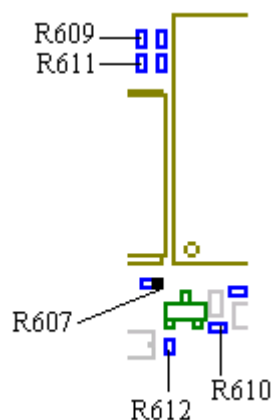

Fig. 8.4
- * If the VBATT voltage is correct, check that R612 (~0 ohms, class A), R610 (~33 ohms, class A) and R611 (~0 ohms, class A, all in fig. 8.4) are mounted and of the correct resistance.
- If none of the H651-H660 LEDs are lit, measure the voltage at the marked side of R607 (~3.1V, fig. 8.4). Before measuring you have to press a key for the processor to set the LED3K signal high for about 10s.
- * If VBATT is correct, make sure R612 (~0 ohms, class A), R609 (~33 ohms, class A) and R611 (~0 ohms, class A, all in Fig. 8.4) are mounted and of the